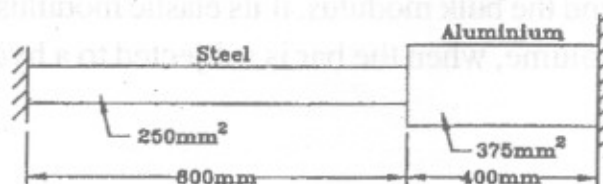

fig. 2 Q. 2 c)
- c) The composite bar consisting of steel and aluminium components shown in fig. 2 is connected to two grips at the ends at a temperature of 60°C . Find the stresses in the two rods when the temperature falls to 20°C .